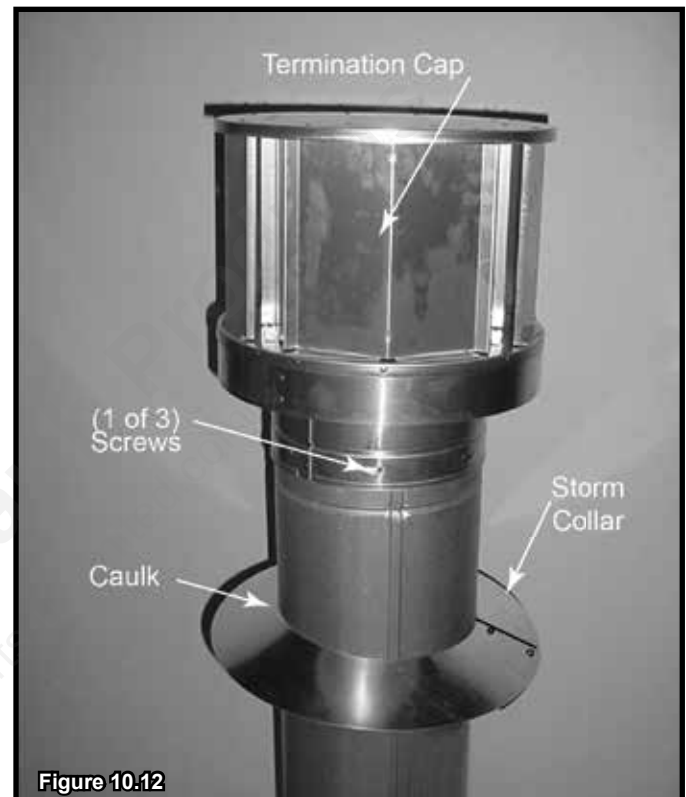

Figure 10.12
- Caulk around the top of the storm collar. See Figure 10.12.